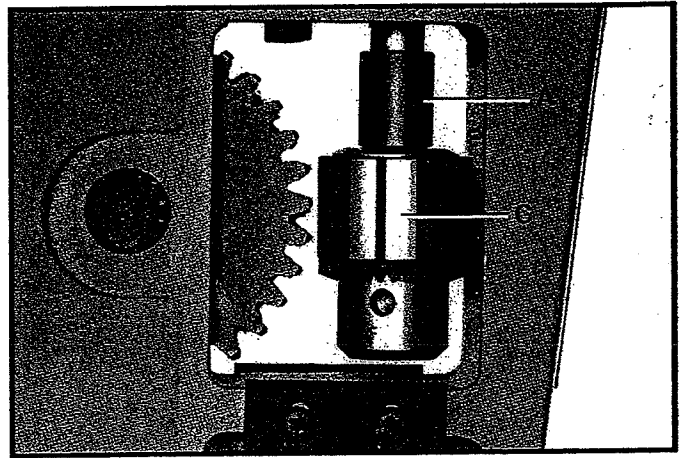
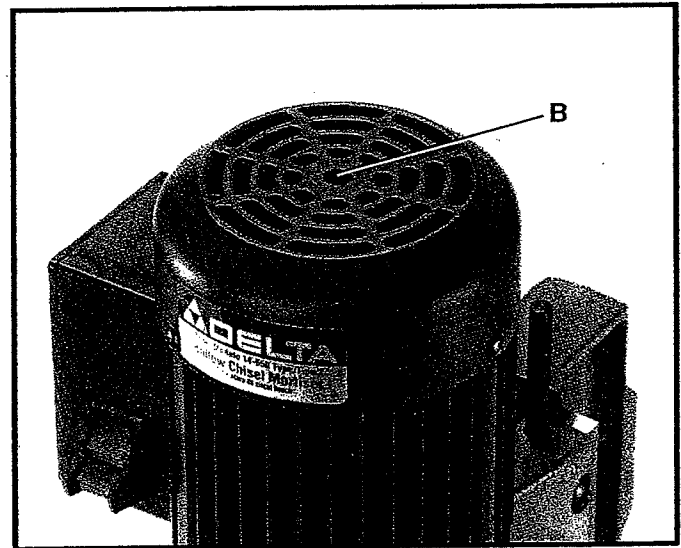

Fig. 37
Fig. 38
When using bits with extra long shanks, it will be necessary to remove the extension (A) Fig. 37. This can be accomplished by inserting screwdriver into center hole of motor end cap (B) Fig. 38, and into slot in end of armature shaft. Then using chuck key, unscrew and remove chuck (C) Fig. 37, and extension (A). Remove extension (A) from chuck (C) and replace chuck (C) on end of motor armature.